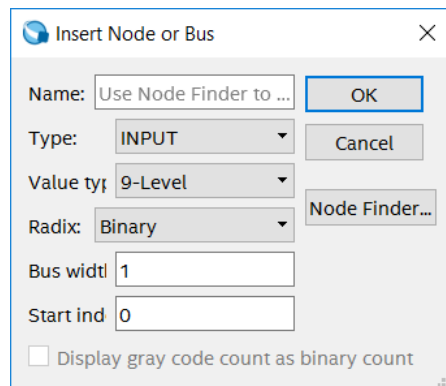
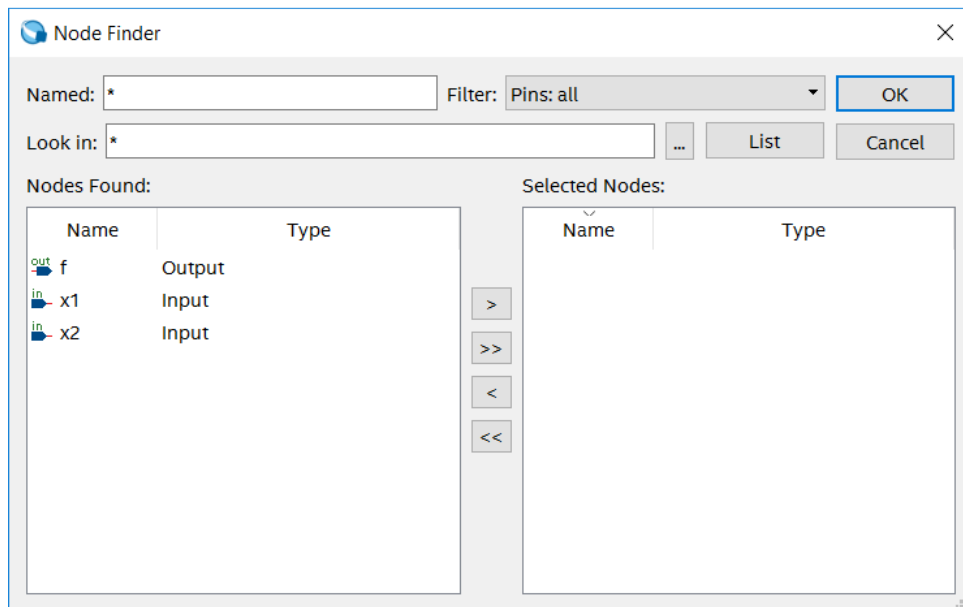
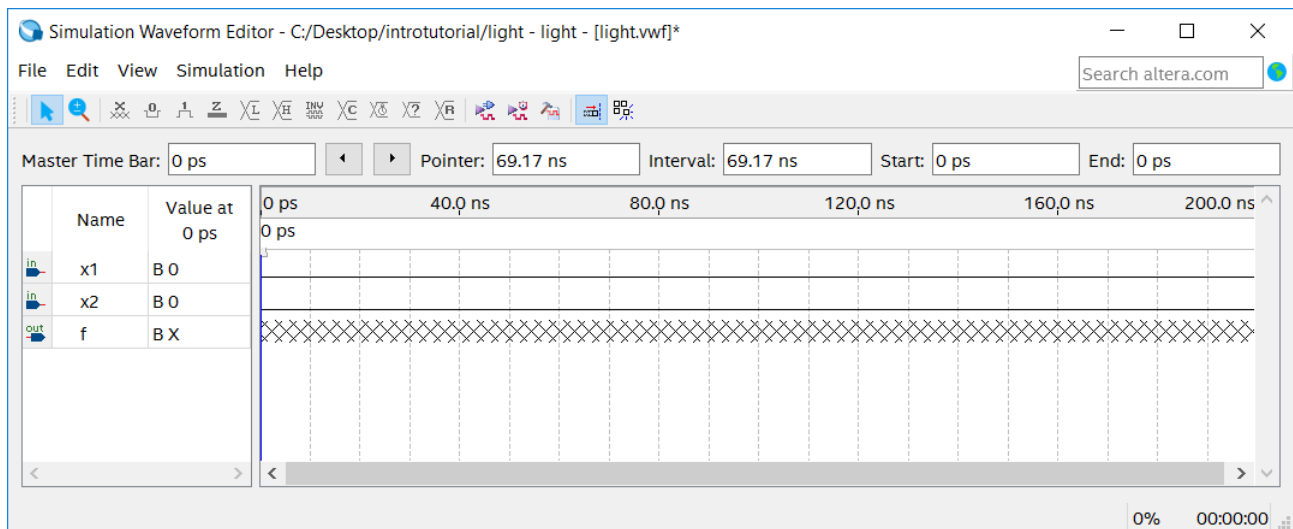

Figure 33. The Insert Node or Bus dialogue.
Figure 34. Selecting nodes to insert into the Waveform Editor.
Figure 35. The nodes needed for simulation.
- Next, we want to include the input and output nodes of the circuit to be simulated. Click **Edit > Insert > Insert Node or Bus** to open the window in Figure 33. It is possible to type the name of a signal (pin) into the Name box, or use the Node Finder to search your project for the signals. Click on the button labeled **Node Finder** to open the window in Figure 34. The Node Finder utility has a filter used to indicate what type of nodes are to be found. Since we are interested in input and output pins, set the filter to **Pins: all**. Click the **List** button to find the input and output nodes as indicated on the left side of the figure.
Click on the *x1* signal in the Nodes Found box in Figure 34, and then click the > sign to add it to the Selected Nodes box on the right side of the figure. Do the same for *x2* and *f*. Click OK to close the Node Finder window, and then click OK in the window of Figure 33. This leaves a fully displayed Waveform Editor window, as shown in Figure 35. If you did not select the nodes in the same order as displayed in Figure 35, it is possible to rearrange them. To move a waveform up or down in the Waveform Editor window, click within the node’s row (i.e. on its name, icon, or value) and drag it up or down in the Waveform Editor.